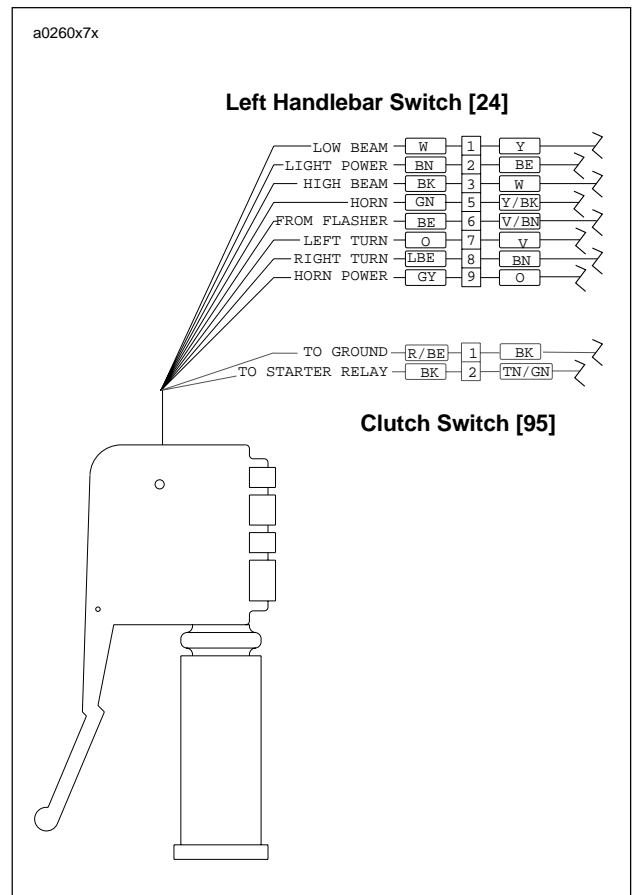

Figure 7-76. Left Handlebar Switch Connection
3. See Figure 7-76. Cut cable strap(s) as necessary to access left handlebar switch connector [24] and clutch switch connector [95] behind dash. Detach connector [24] from wiring harness.
2. See Figure 7-76. Route switch housing wiring harness between front forks. Attach connector [24] and connector [95] to wiring harness. Fasten wiring harness behind dash with **new** cable straps.